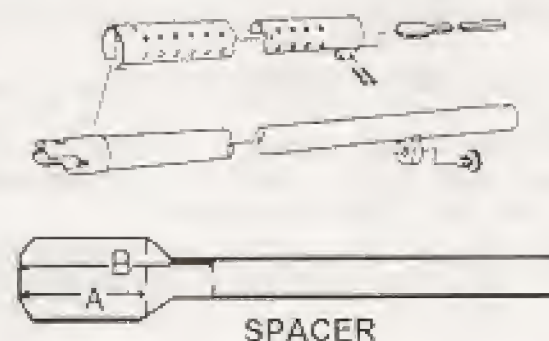

Fig. 17
- Position the appropriate length plastic spacer or optional bushing style spacers between the forward clamp. Insert the two screws and start the two hex nuts on the screws using a 7/64" hex key wrench and a 5/16" open end or box wrench. DO NOT FULLY TIGHTEN THE TWO SCREWS YET (Fig. 17).